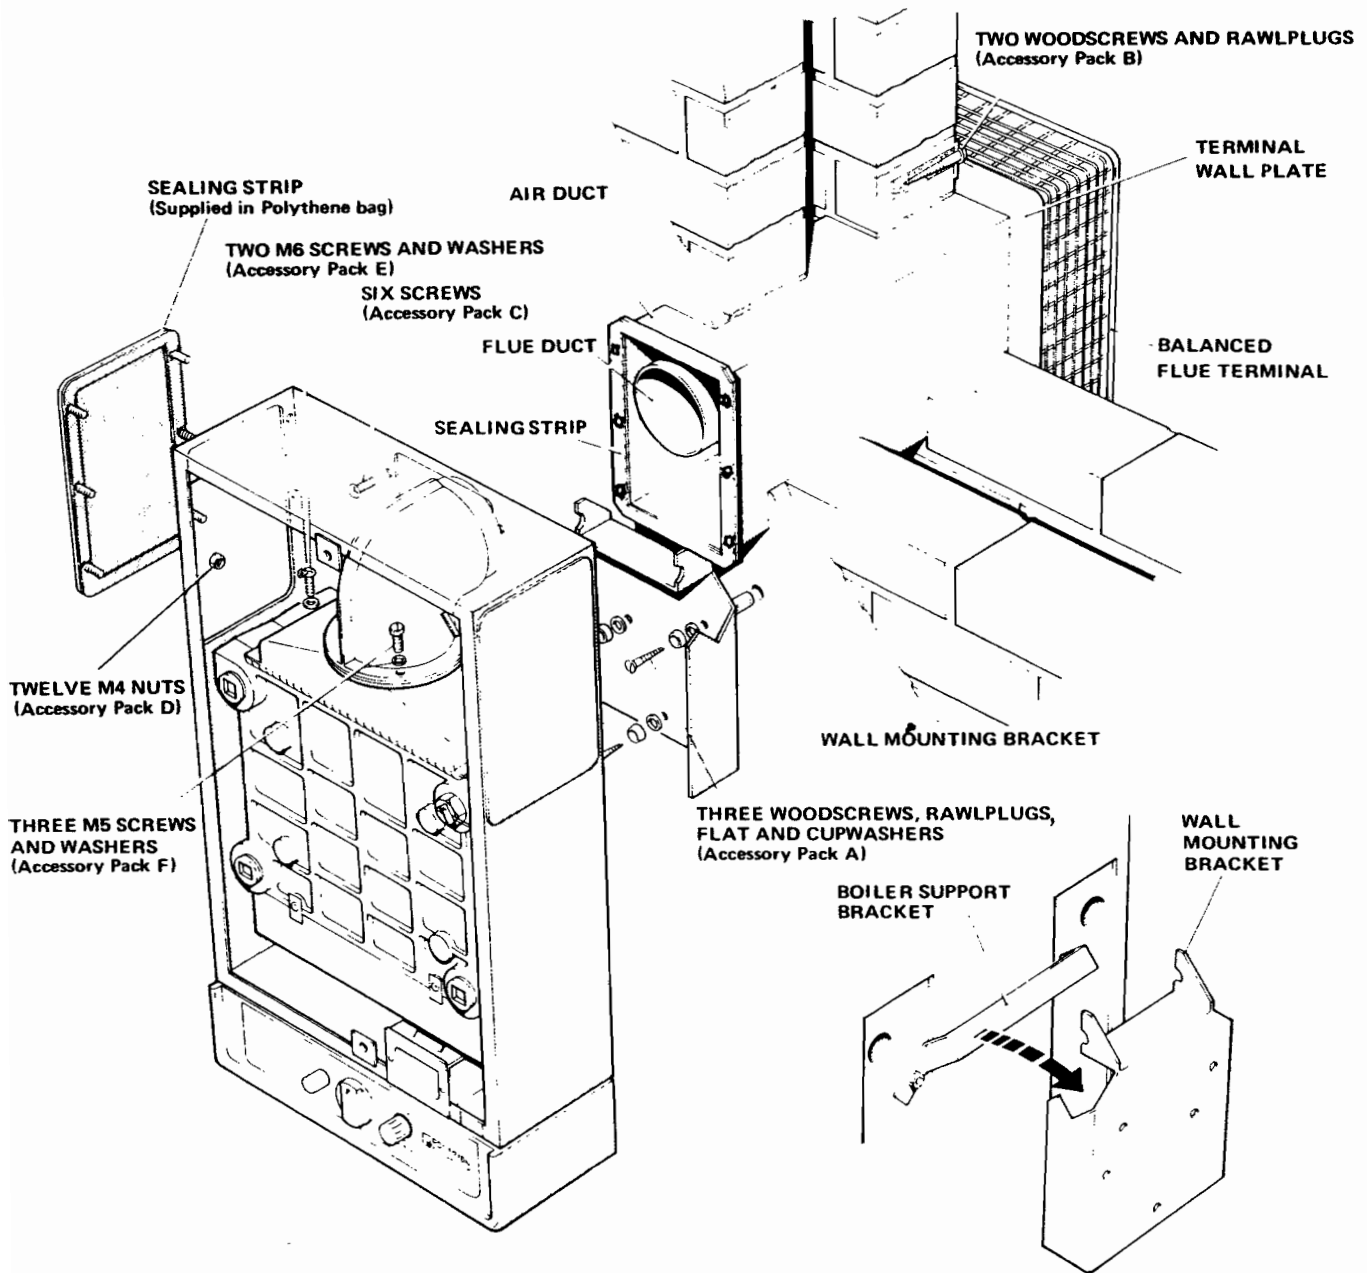

Fig. 4 MOUNTING FEATURES – BALANCED FLUE MODEL
A. With the boiler still on its back on the floor, on balanced flue models only, fit the sealing strip supplied all around the flange of the fresh air duct (positioned in the wall) where it will connect with the boiler and around the flanges of the two casing blanks. It will be necessary to make holes in the sealing tape to accommodate the securing screw (see Fig. 4). Fit the two blanks to blank off the two unused duct openings in the boiler casing, securing each with six M4 nuts (Accessory Pack D).